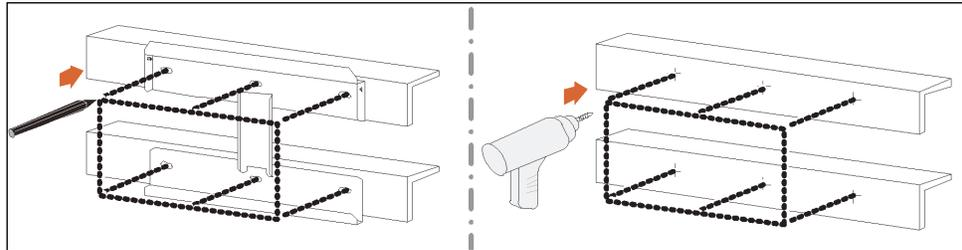

Figure 2-5 Mark and Pre-drill Metal Frame
4. Use the backplate to mark the metal frame with the location of the holes to be drilled. See Figure 2-5.
5. Pre-drill the mounting surface, if necessary. See Figure 2-5. Use a drill bit appropriate for a bolt of size M10.